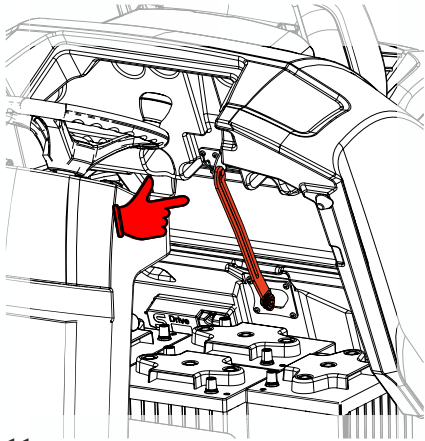

Fig. 11
- Raise the front panel slightly to close and push the rear panel (holds the front panel) slightly back. (Fig.11)